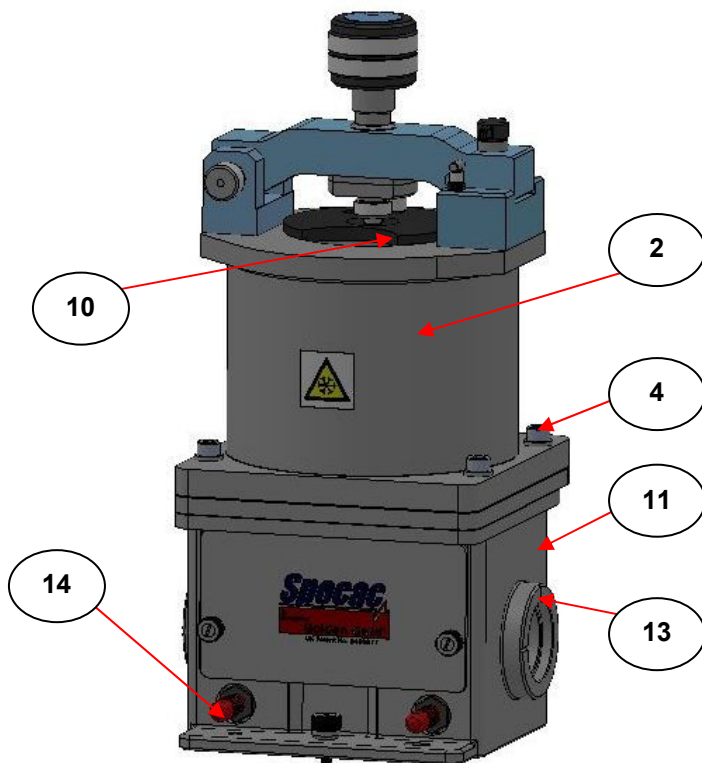

Fig 3. Low Temperature Golden Gate™ ATR Accessory
If the Low Temperature Golden Gate™ ATR Accessory under P/N GS10592 has been supplied then the Low Temperature Golden Gate™ top plate is already fixed to the Golden Gate™ optical unit (11) (see Fig 3.) and the whole is mounted on an appropriate Benchmark™ type baseplate within the sample compartment of a Spectrometer. (See installation procedure of the Golden Gate™ optical unit for your Spectrometer from the Golden Gate instruction manual (P/N GS10500))
When using the Low Temperature Golden Gate™ ATR accessory at temperatures below the ambient dew point, it is **essential** to use and establish a nitrogen purge within the Golden Gate™ optical unit (11) **before** any refrigerant is poured into the dewar chamber (6). This is to prevent condensation or frost forming on the internal optics of the Golden Gate™ optical unit. The purge can be established by using a spectrometers own purge facility (if available) by using the purge bellows (P/N GS10707) to bridge the gap between the Golden Gate™ apertures (13) and the input and output ports of the Spectrometer. (See Purging the Golden Gate in the P/N GS10500 manual.) Alternatively, with the purge bellows fitted to the aperture ports (13), the optical unit (11) can be purged via the two purge port hose connectors (14) on the front of the Golden Gate™ optical unit (11) using a dedicated dry nitrogen gas supply. (See fig 3.)